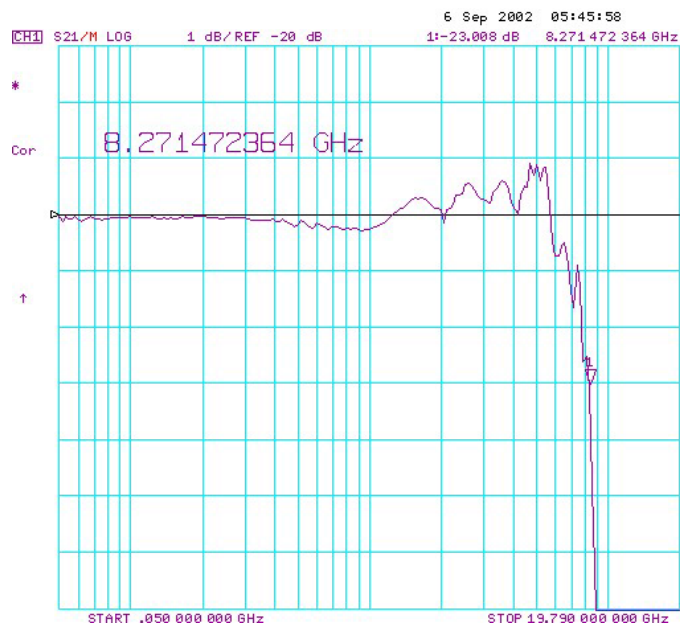

Figure 232 Typical Waveform for an 1134B Probe
- 45 Then select the **Data/Memory** screen key. You may need to adjust the **Reference Value**, located under the **Scale Ref** key, slightly to position the waveform at center screen. The waveform should be similar to that shown in **Figure 232** on page 215.